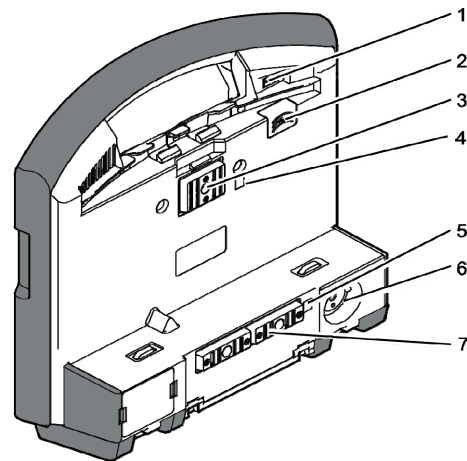

Fig. 3-6 Monitoring unit, rear view
**Interfaces** Fig. 3-6 shows the interfaces at the monitoring unit.